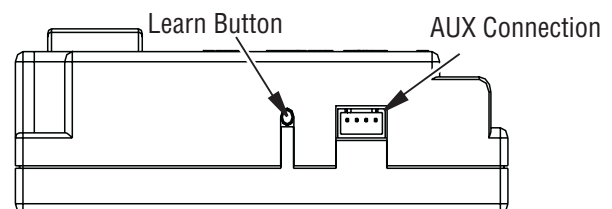

Figure 27 - Gas Module Left Side
1. There is a switch located on the right side of the module that reads REMOTE/OFF (*Figure 27*).
- To program the module (make sure the system has power), locate the learn button on left side as shown in **Figure 27, Page 16**. Press and release the learn button. There will be a beep sound from the module. Then press any button on the remote transmitter. Once the module's internal receiver accepts the transmitter code, there will be a series of confirming beeps.